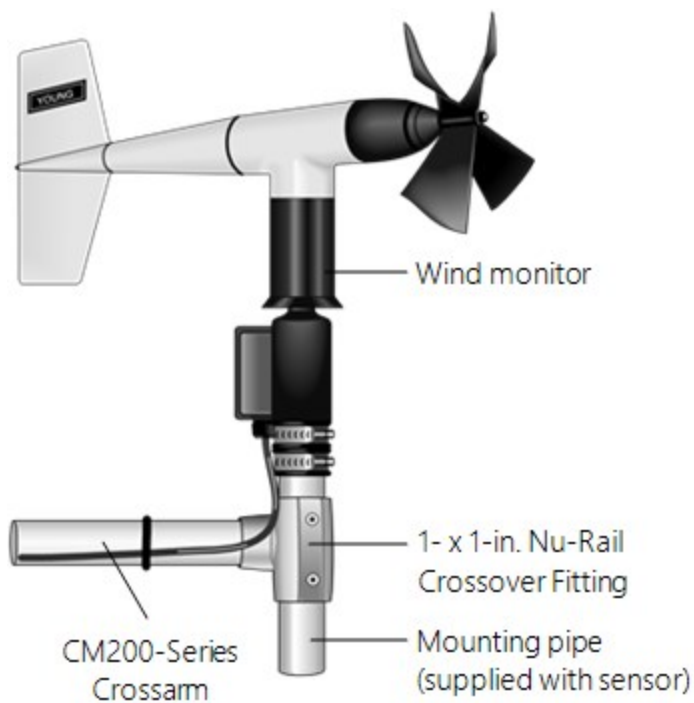

FIGURE 7-3. Wind monitor mounted to a crossarm by using 1- x 1-in. Nu-Rail Crossover Fitting
- 1-inch-by-1-inch Nu-Rail Crossover Fitting (FIGURE 7-3 (p. 13))